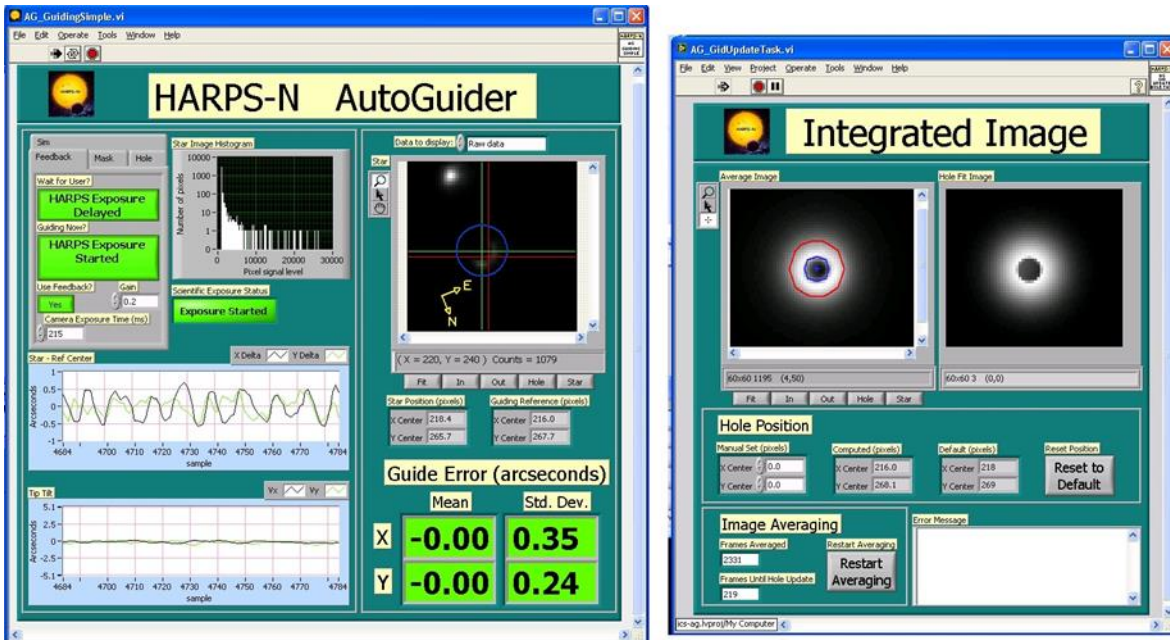
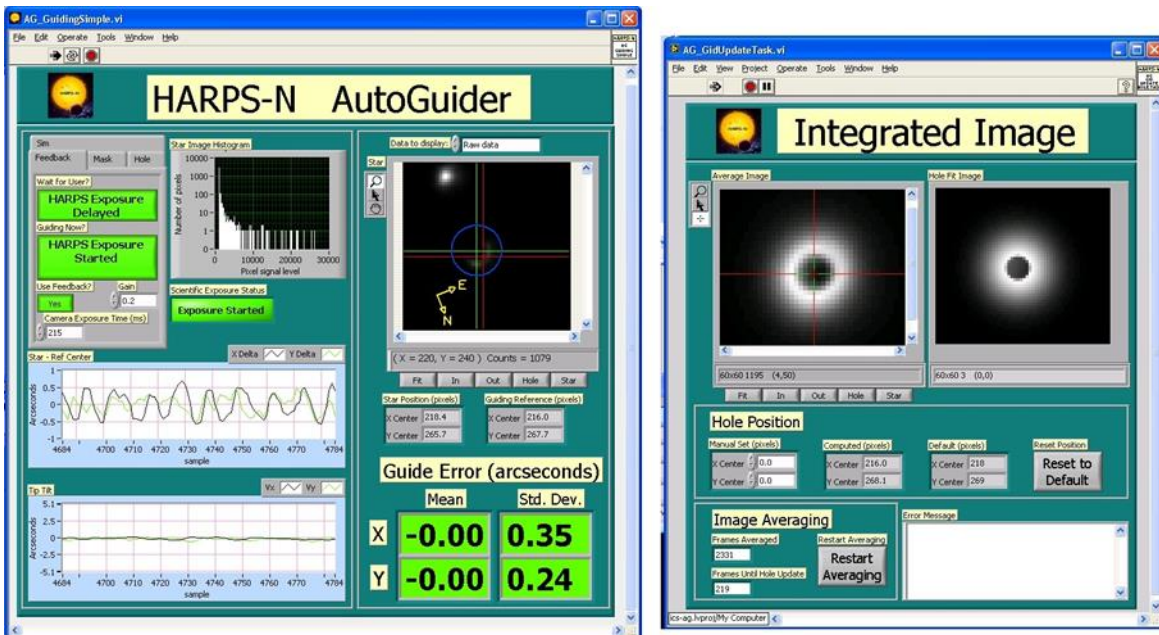

Figure 8 - Autoguider and Front End Monitor (automatic mode)
Figure 9 - Autoguider and Front End Monitor (manual mode)
The autoguider starts when the observer clicks on the accept button of the sequencer GUI and two windows opens (Figure 8 and Figure 9):
**In the** The HARPS-N AutoGuider windows (Figure 8) the white cross represent the center of the star and the Red Cross is the center of the fiber.